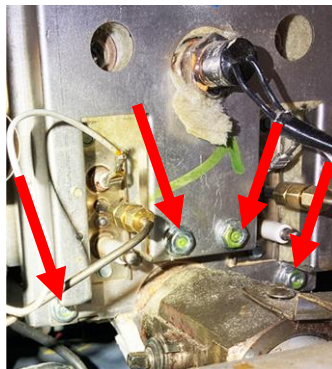

Figure 66
66. Attach and tighten all four (4) lower nuts (see Figure 66).